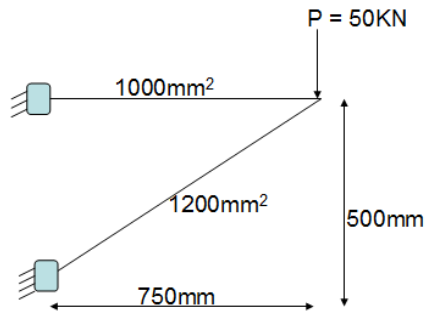

Fig. Q 6
6. For the structure shown in Fig. Q 6. Determine the nodal displacements 20